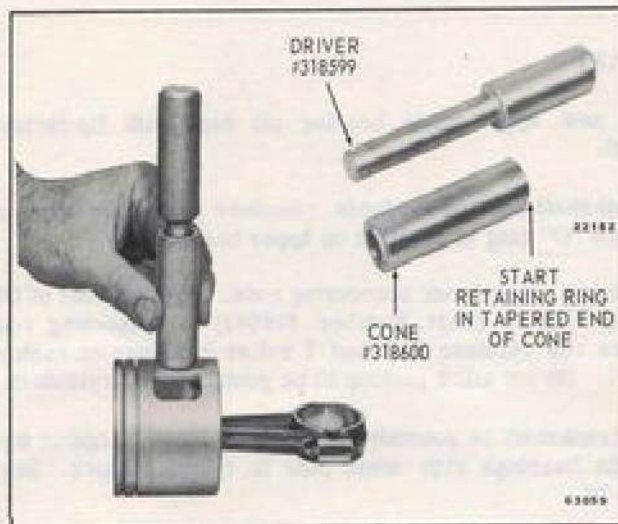

Figure 5-35. Installing Wrist Pin Retaining Rings
d. Replace retaining rings, making certain they come to rest securely in the groove provided for this purpose, using OMC Special Tools Cone Part #318600 and Driver #318599. See Figure 5-35.